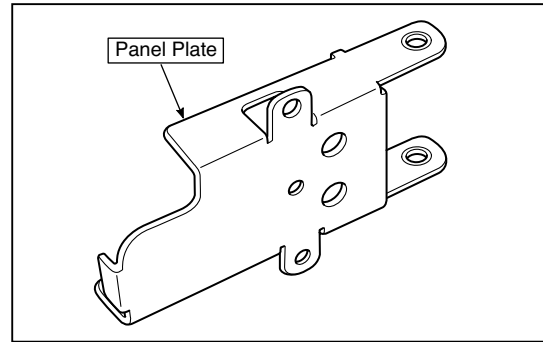

Fig.28
- 2.Remove the Panel Plate shown in the figure 28.